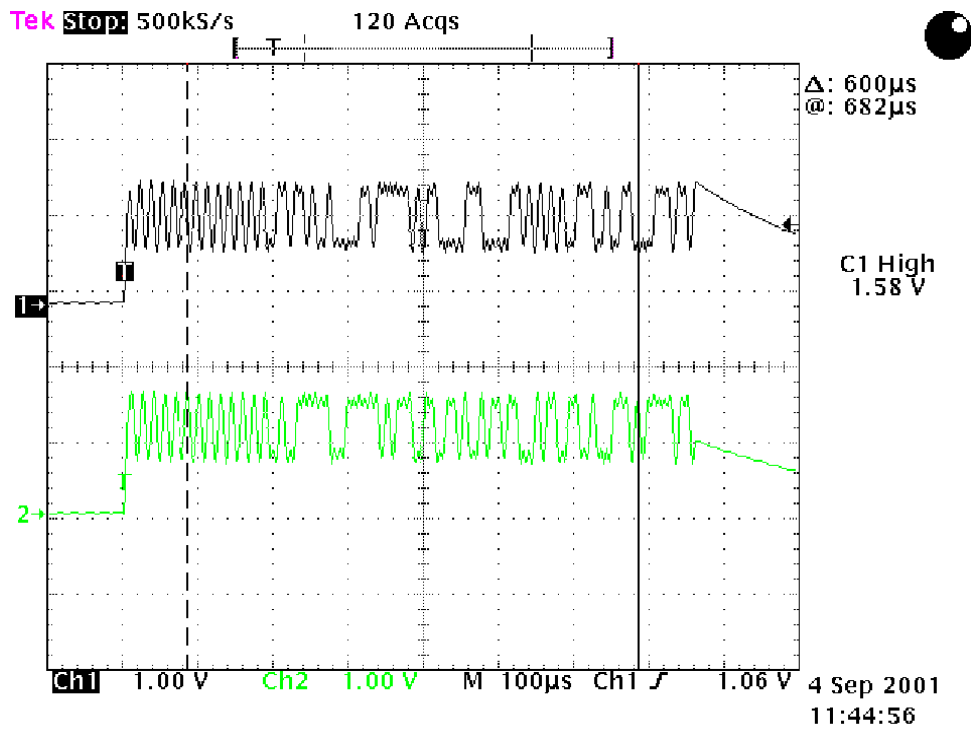

Figure 3-20. TX IQ Signal.
6. TX IP, IN, QP, QN (see Fig. 3-20)